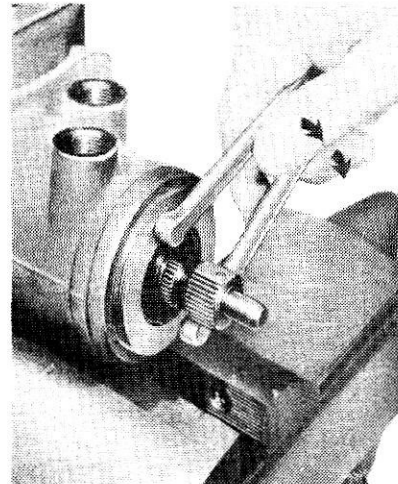

FIG. 5 Bottoming Adjuster Plug
3. Turn the adjuster plug in (clockwise) until the plug and thrust bearing are firmly bottomed, approximately 20 ft-lbs. (see Fig. 5).